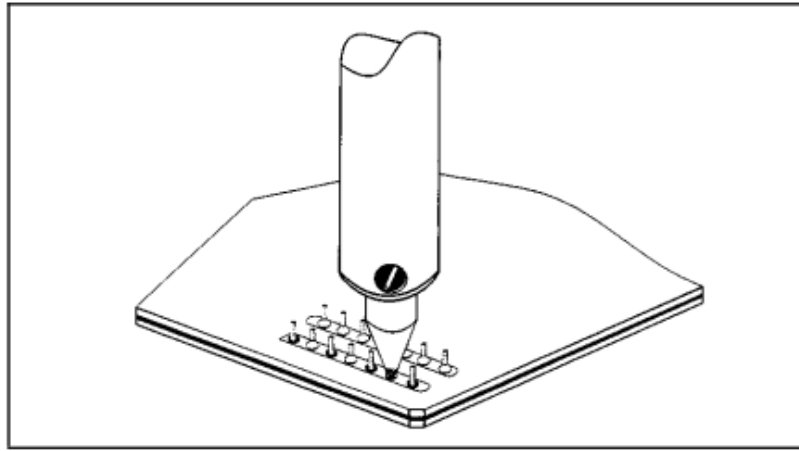

Figure 3 Melt Solder
11. Confirm complete solder melt of contacted lead. (See Figure 3.)